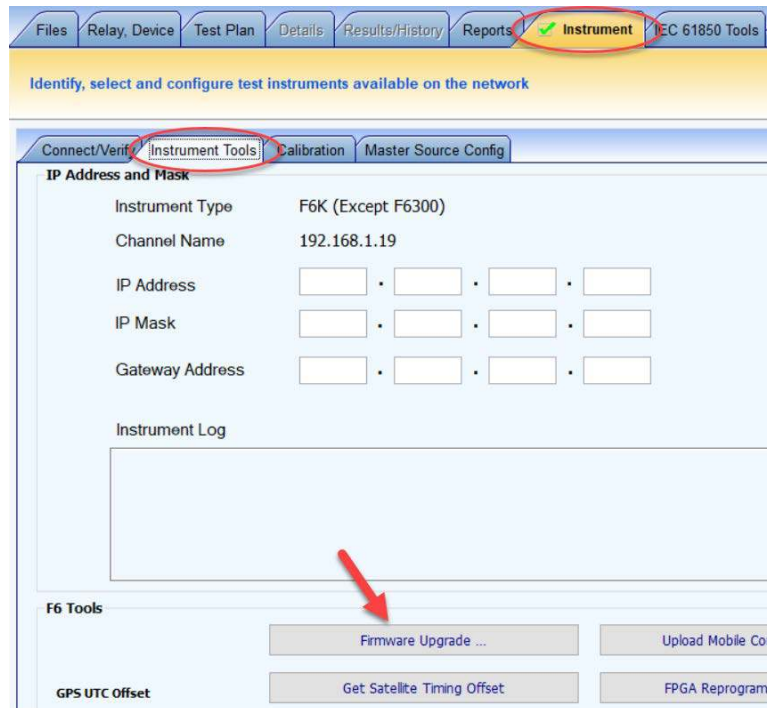

Figure 8. Location of “Firmware Upgrade” button
25) Choose Firmware Upgrade (in the F6 Tools section, shown in Figure 8)